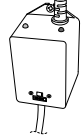

FIGURE 8
13. **System Test 1:** Assure there is no water dripping from the seal compression nut (5). If water is visible, STOP and tighten the compression nut (5) using a pair of channel lock pliers to a maximum of 1/4 turn. If that does not fix the leak, then repeat quartz tube maintenance process from step 1 through step 12. Make sure there is no water leaking before proceeding to step 14.
15. Reconnect the UV bulb socket (7) to the power cord socket (11) make sure you use the latex glove provided when handling the UV bulb.
16. Slide the new UV bulb (3) back inside the quartz tube.
17. Reinstall the black bulb boot (6) back over the quartz seal compression nut (5).
18. Reinstall the enclosure cover (9) with gasket (8) and secure with the screws.
20. Once power is activated you can check the ballast (12), Figure 8, to see if the ClearRay Active Oxygen® System is functioning; it has two LED indicator lights the green indicating incoming power flow and the red indicating the system is properly working.